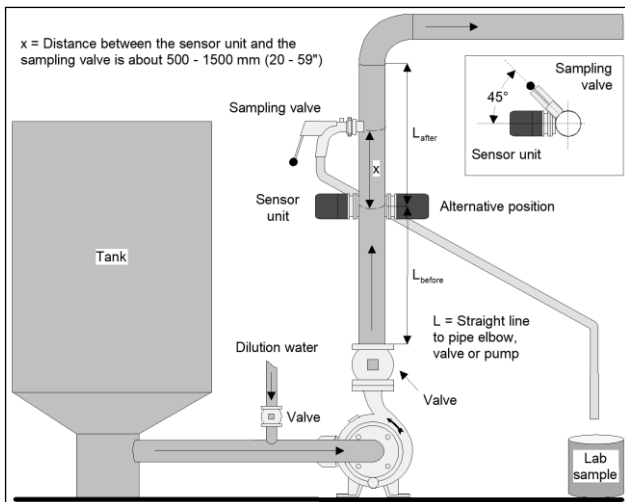

Figure 1. Installation in the vertical pipe.
- Check that pump and valve axes are parallel (fig. 1).
- Check that the sensor unit's and the pump's axes are perpendicular to each other (fig. 1).
- Check that the sampling valve is installed 500 – 1500 mm (20 – 59") after the sensor unit (fig. 1).
- Check that there is required amount (\_\_\_\_) of straight pipeline before the sensor unit (fig. 1). Normally 3 – 10 x D.
- Check that there is required amount (\_\_\_\_) of straight pipeline after the sensor unit (fig. 1). Normally 1 – 3 x D.